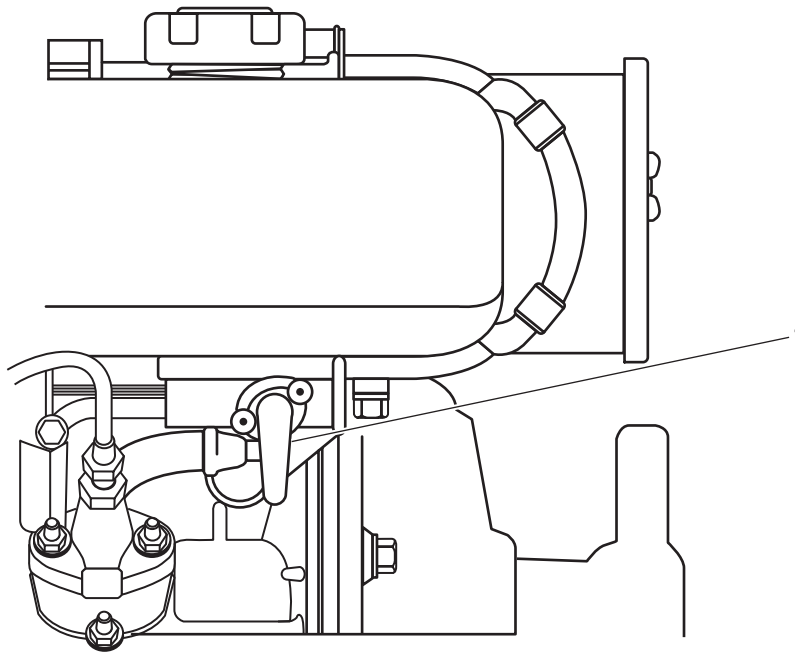

Figure 2. Fuel Tank Isolation Valve
1. Set the fuel tank isolation valve (figure 2, item 1) located under the fuel tank (figure 2, item 2) to the “O” (OPEN) position.
3. If the engine continues to run, CLOSE the fuel tank isolation valve (figure 2, item 1).
8. Apply silicone lubricant through the pump's inlet fitting while slowly pulling the recoil starter rope (figure 2, item 1) to lubricate the pump's internal components.
2. At 440V power panel No. 2 (figure 2, item 1), set the following circuit breakers to the ON position:
- a. REHEATER 1-23-2. (figure 2, item 2)
- b. GALLEY SUPPLY FAN S1-22-4/CONTROLLER FOR GALLEY EXTRACT FAN E1-37-1. (figure 2, item 3)
- c. GALLEY EXHAUST FAN E1-37-1/CONTROLLER FOR GALLEY SUPPLY FAN S1-22-4. (figure 2, item 4)